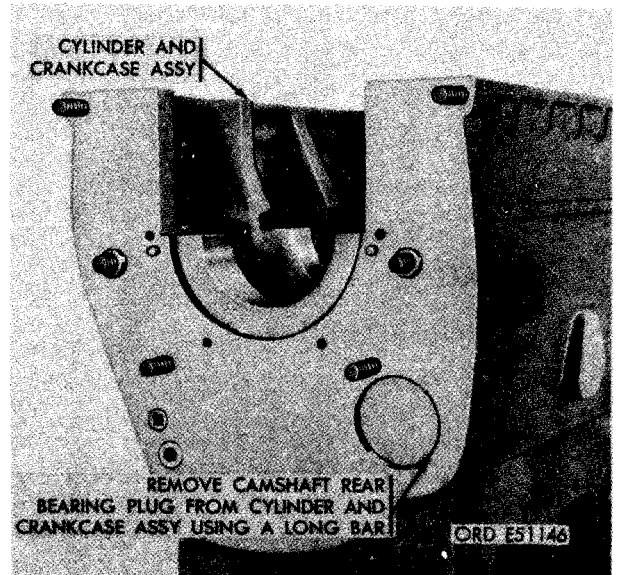

FIGURE 312. REMOVING OR INSTALLING CAMSHAFT REAR BEARING PLUG.
(3) Refer to figure 312 and remove camshaft rear bearing plug.